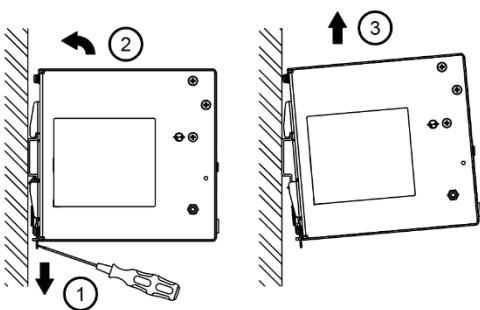

Fig. 3.2 Dismounting
5. To uninstall, pull or slide down the latch with screw driver as shown in Fig. 3.2. Then slide the power supply unit (PSU) in the opposite direction, release the latch and pull out the power supply unit (PSU) from the rail.